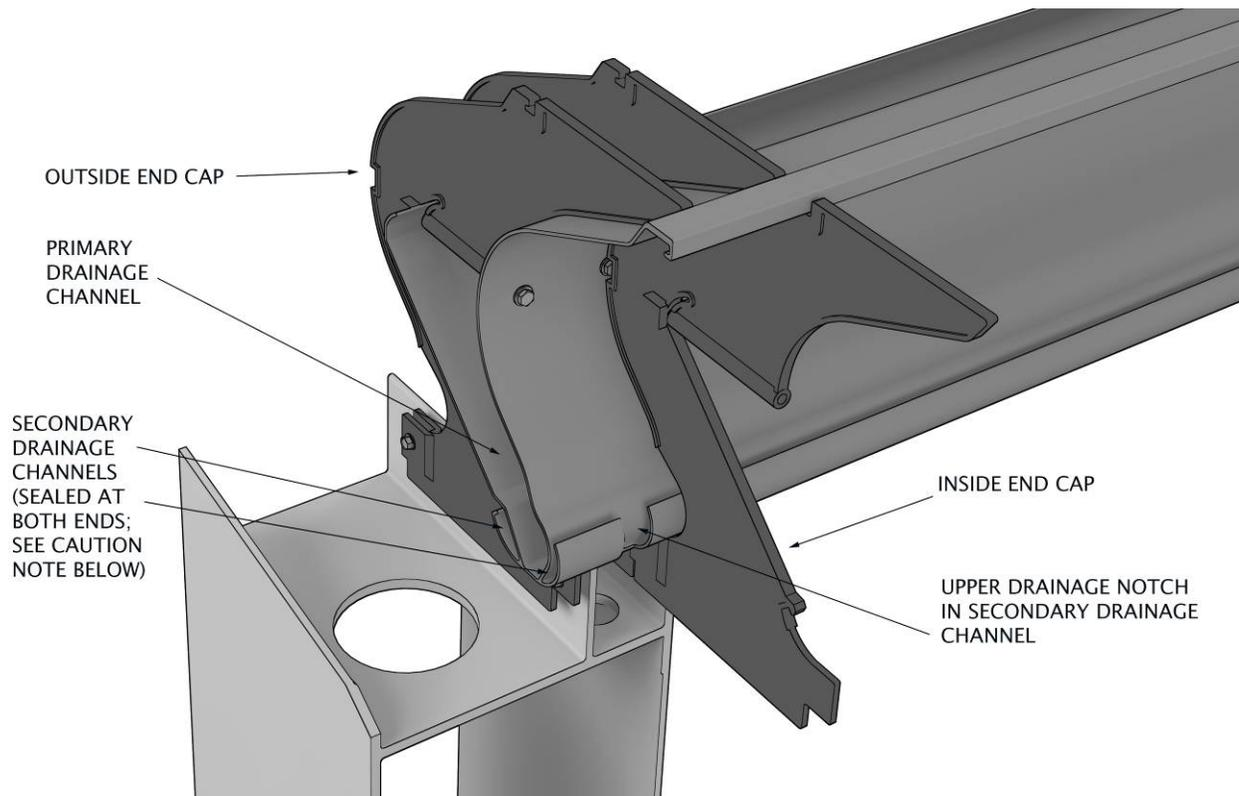

Figure 59 – Close-Up View: Water Collection System
- **Secondary Drainage Channels:** Located at the bottommost section of a collector vane, secondary channels are designed to capture water drops adhering to the exterior surfaces of a collector vane. If a secondary drainage channel becomes clogged with scale, dirt or debris, it is possible that some water may escape containment. Secondary drainage channels should be inspected periodically, both visually and by feel, to ensure they are free of scale, dirt and debris. Refer to Figure 59 and 60.
- Flow-Thru Basin Primary Drainage Holes in the Perimeter Basin Wall allow cooled water exiting the Water Collection System to flow into the Flow-Thru Basin. Refer to Figures 59, 60 and 61.
- Flow-Thru Basin Secondary Drainage Holes in the Perimeter Basin Wall allow any water that escapes primary containment within the collector primary drainage channels to be channeled back into containment within the perimeter basin beam. Refer to Figures 59 and 60.